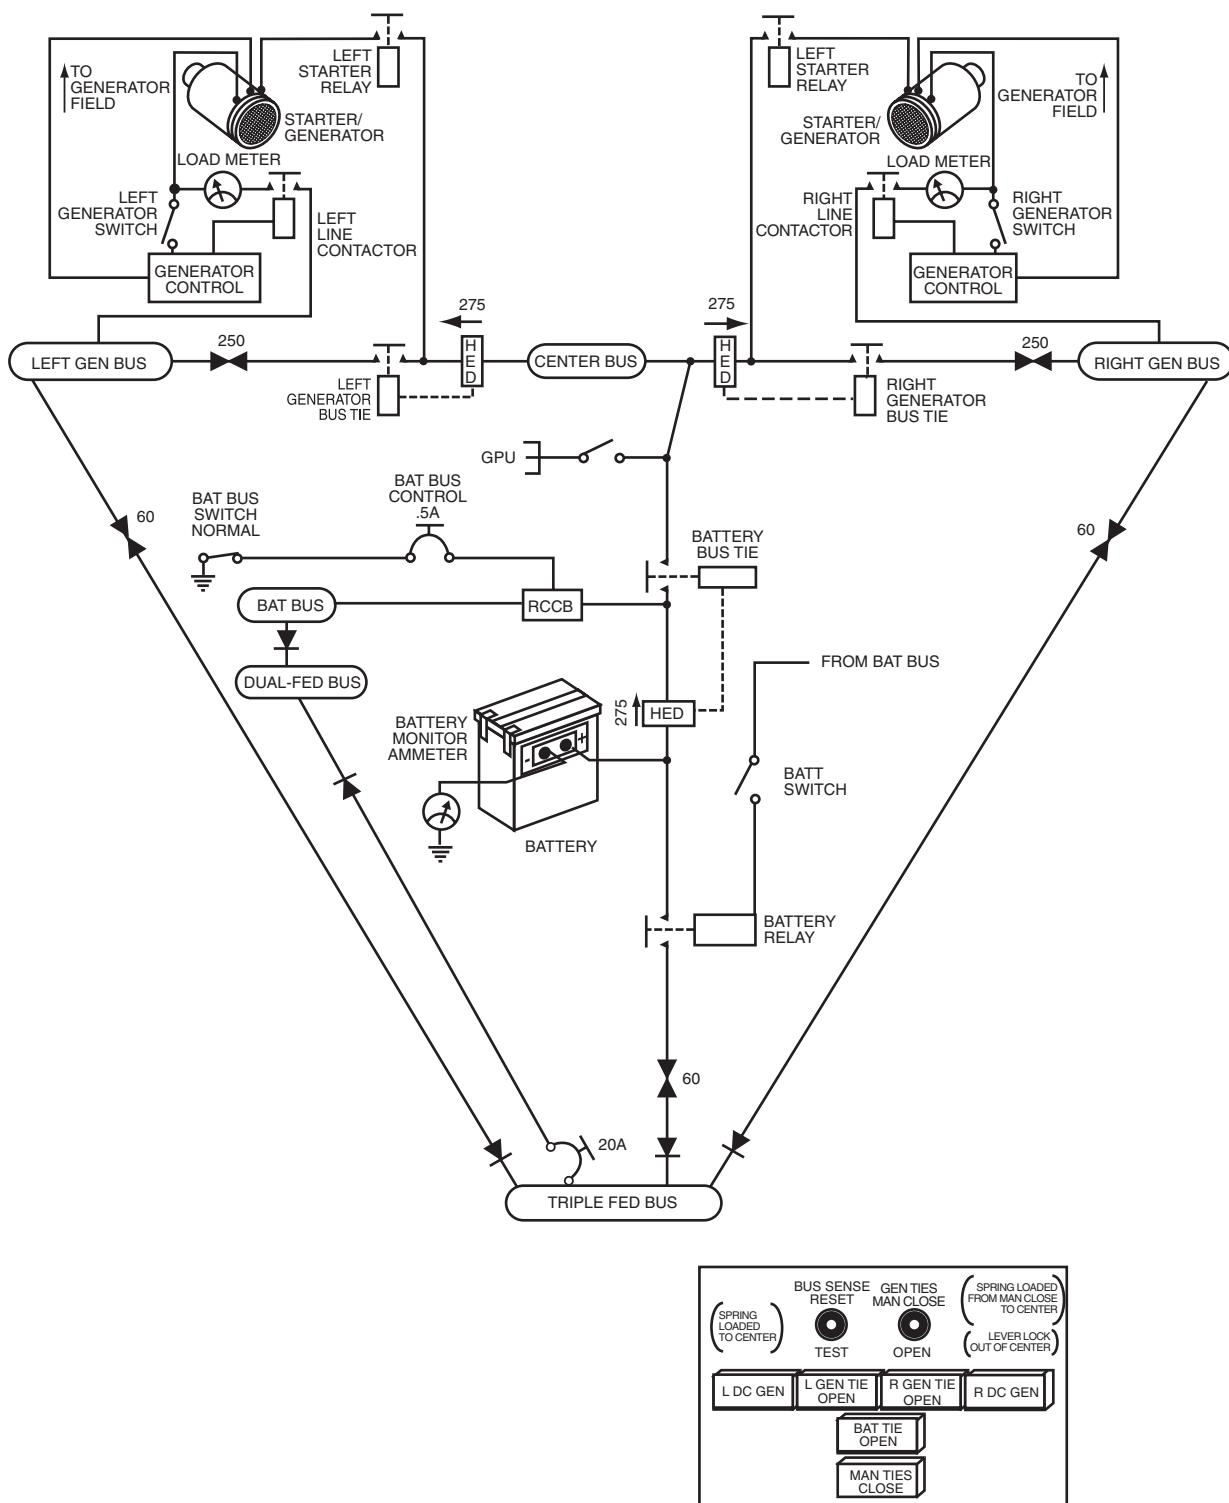

Figure 2-42 King Air 350 Power Distribution Schematic
- Figure 2-42—King Air 350 Power Distribution Schematic